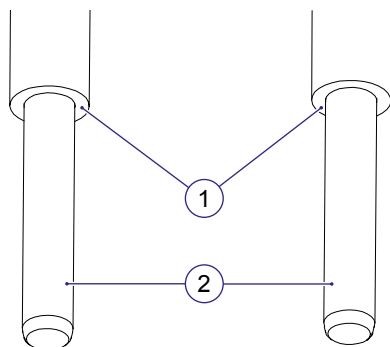

Figure 6.19 Bottom part of the clearance tool
It is especially important to clean the contact surfaces (1) near the end of the two bars, where the clearance tool is installed into the corresponding holes in the cover. See Figure 6.19.